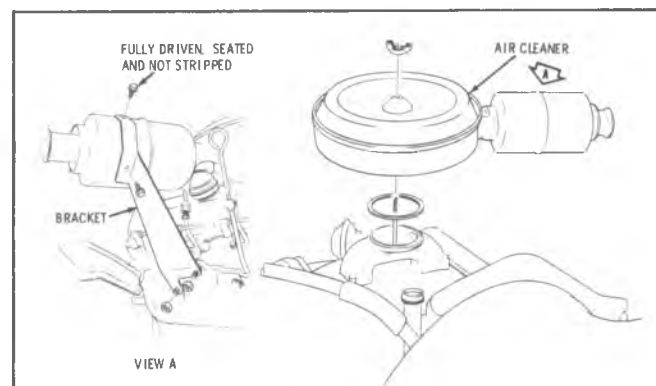

Fig. E-10—Air Cleaner Attachment
1. Remove air cleaner. (Fig. E-10)